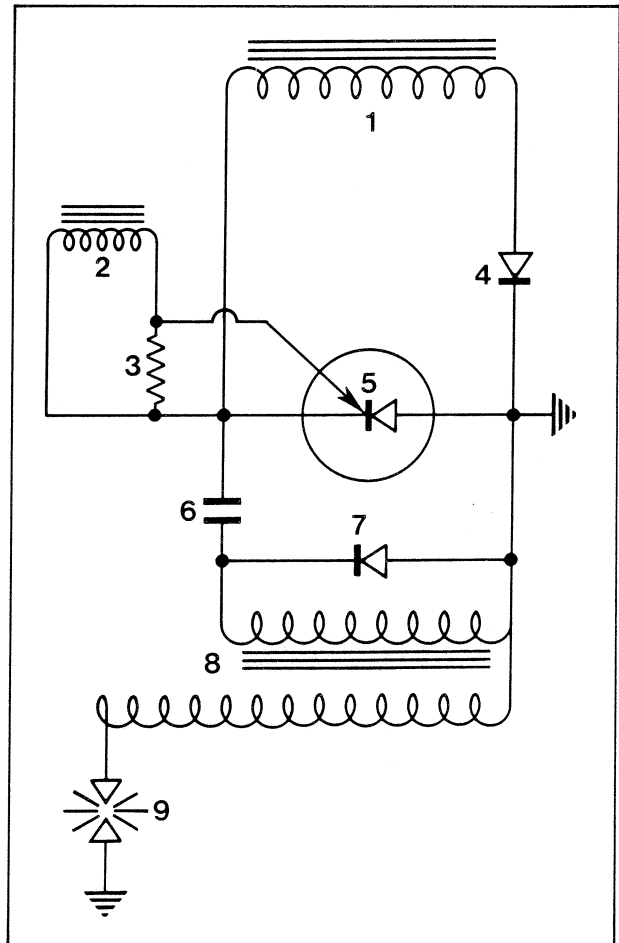

Fig. 3.1
The diode (7) extends the oscillating process between the condensor and the primary coil so enough arcduration time will be reached. See fig. 3.1.